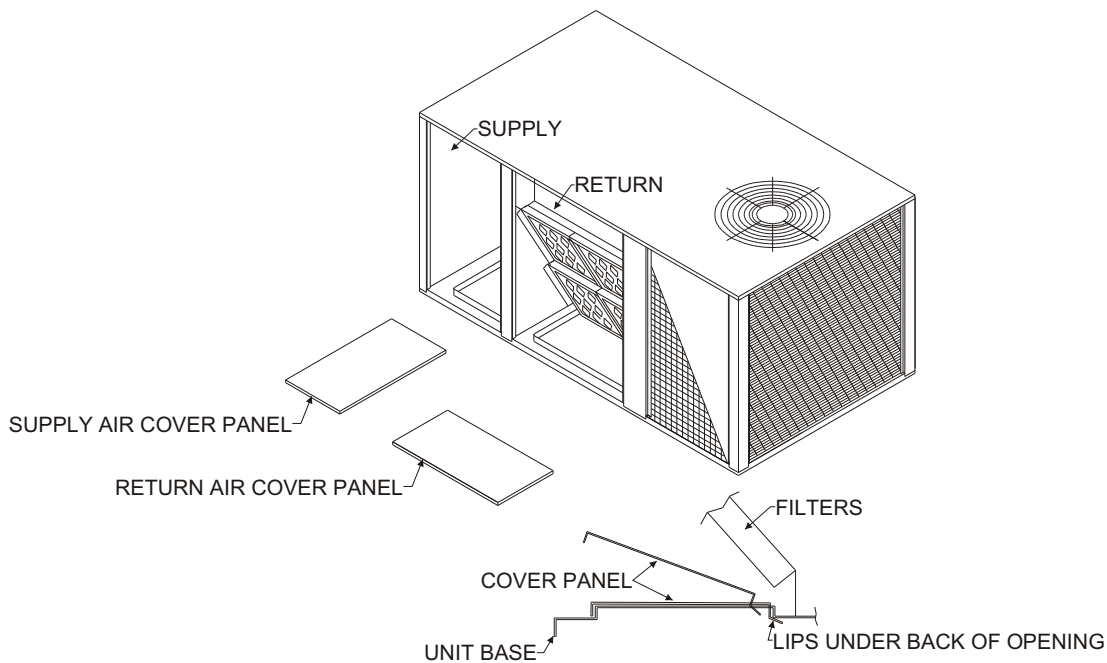

Figure 1
5. Place supply air cover panel (insulated side down) over flanges of supply air opening in bottom of unit. Fasten cover panel to flanges and, using holes in cover as a guide, drill holes in opening flanges and attach cover with screws provided. **See Figure 1.**
6. Place return air cover panel (insulated side down) over flanges of return air opening and attach as per Step 5 above. **See Figure 1.**